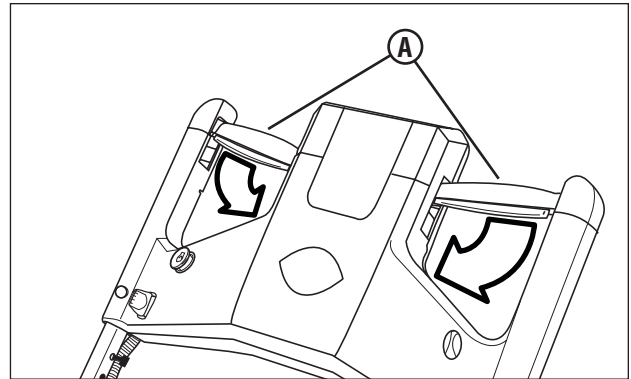

Figure 4: Propelling the mower
2. Begin slowly pushing the drive control **(A, Figure 4)** forward and inward to propel the mower. Forward speed can be increased by pushing the drive control further forward and inward.